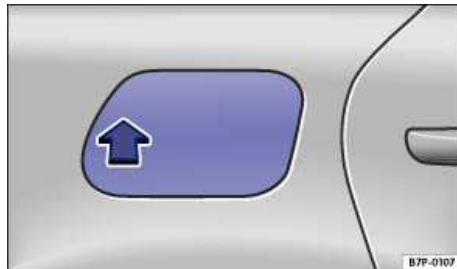

Fig. 305 In the right rear fender: Opening fuel filler flap.
- Push on the fuel tank flap in the right rear fender ⇒ fig. 305 (arrow) and fold open.